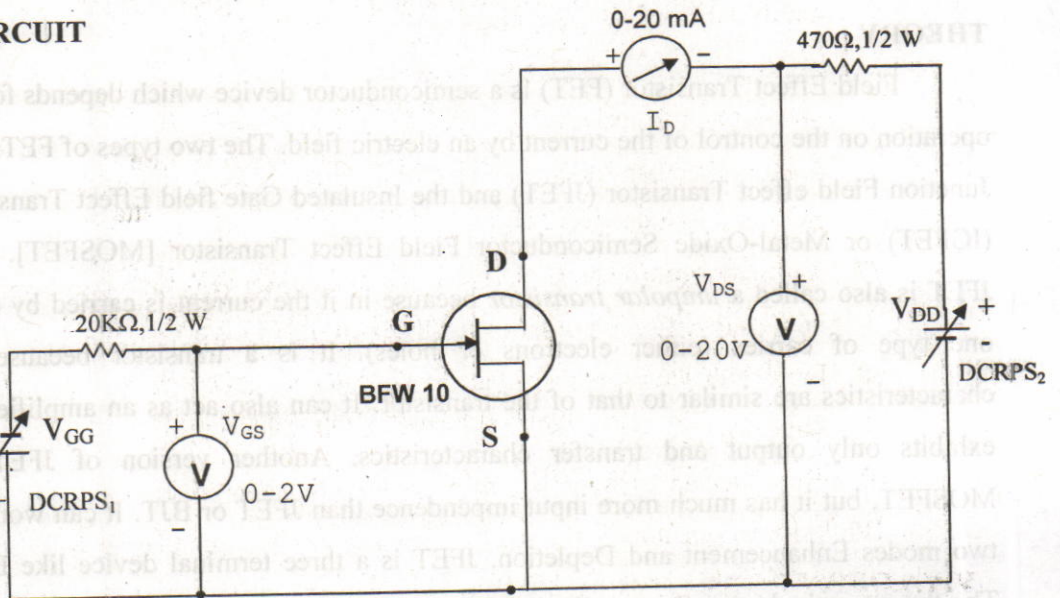

Fig.5.2
2. Connect the circuit to draw the drain characteristics as shown in Fig.5.2.
1. Use the above circuit (Fig.5.2) to draw the transfer characteristics.